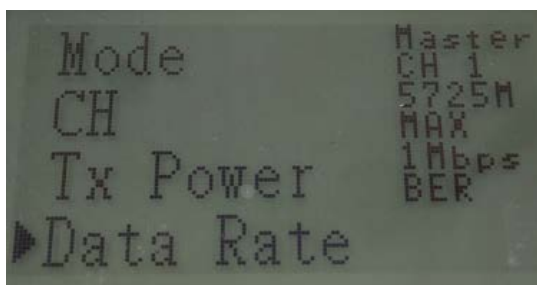

Fig.7
1. Press '↓' or '↑' button to move indicator to 'Data Rate' as shown in Fig.7.